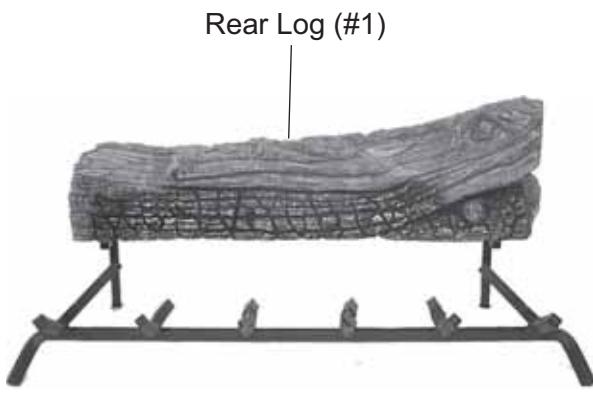

Figure 85 - Placing Rear Log (#1) on Back of Grate
2. Place Back Log #1 on back of grate. See *Figure 85*.